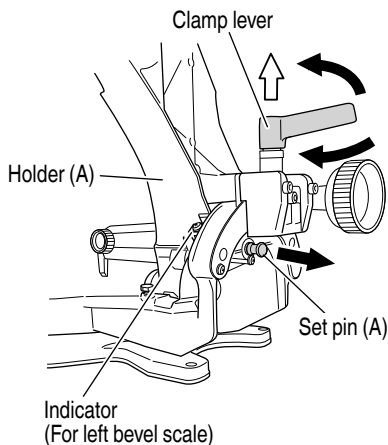

Fig. 36
8. Bevel cutting procedures (Fig. 36)
- (1) Loosen the clamp lever and bevel the saw blade to the left or to the right. When tilting the motor head to the right pull the set pin (A) towards the rear. The clamp lever adopts a latching system. When contacting the work bench and the main body, pull the clamp lever in the direction of the arrow mark as illustrated in Fig. 36, and change the direction of the clamp lever.